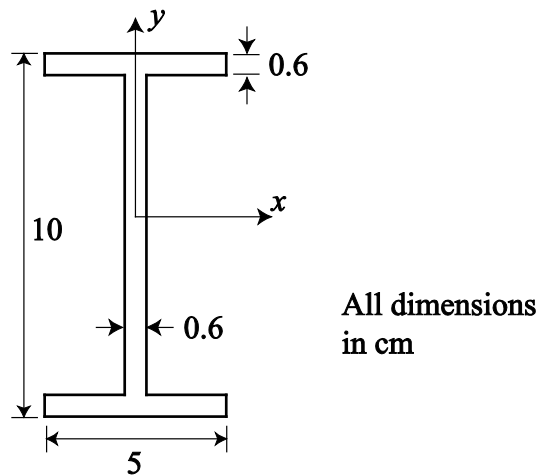

Figure 8
8. Determine I_{xx} and I_{yy} for the cross section shown in Figure 8.